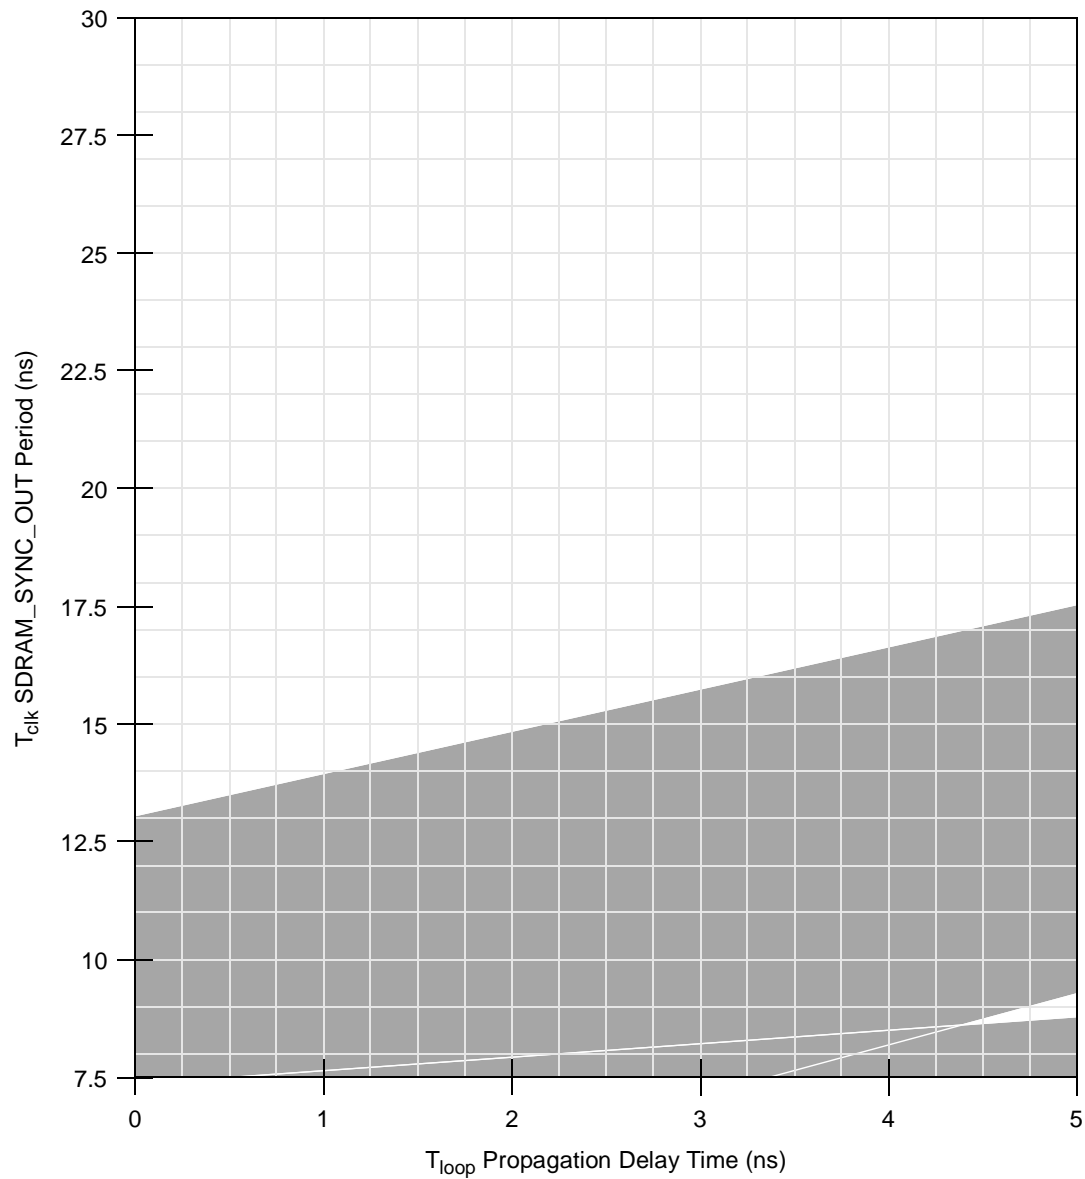
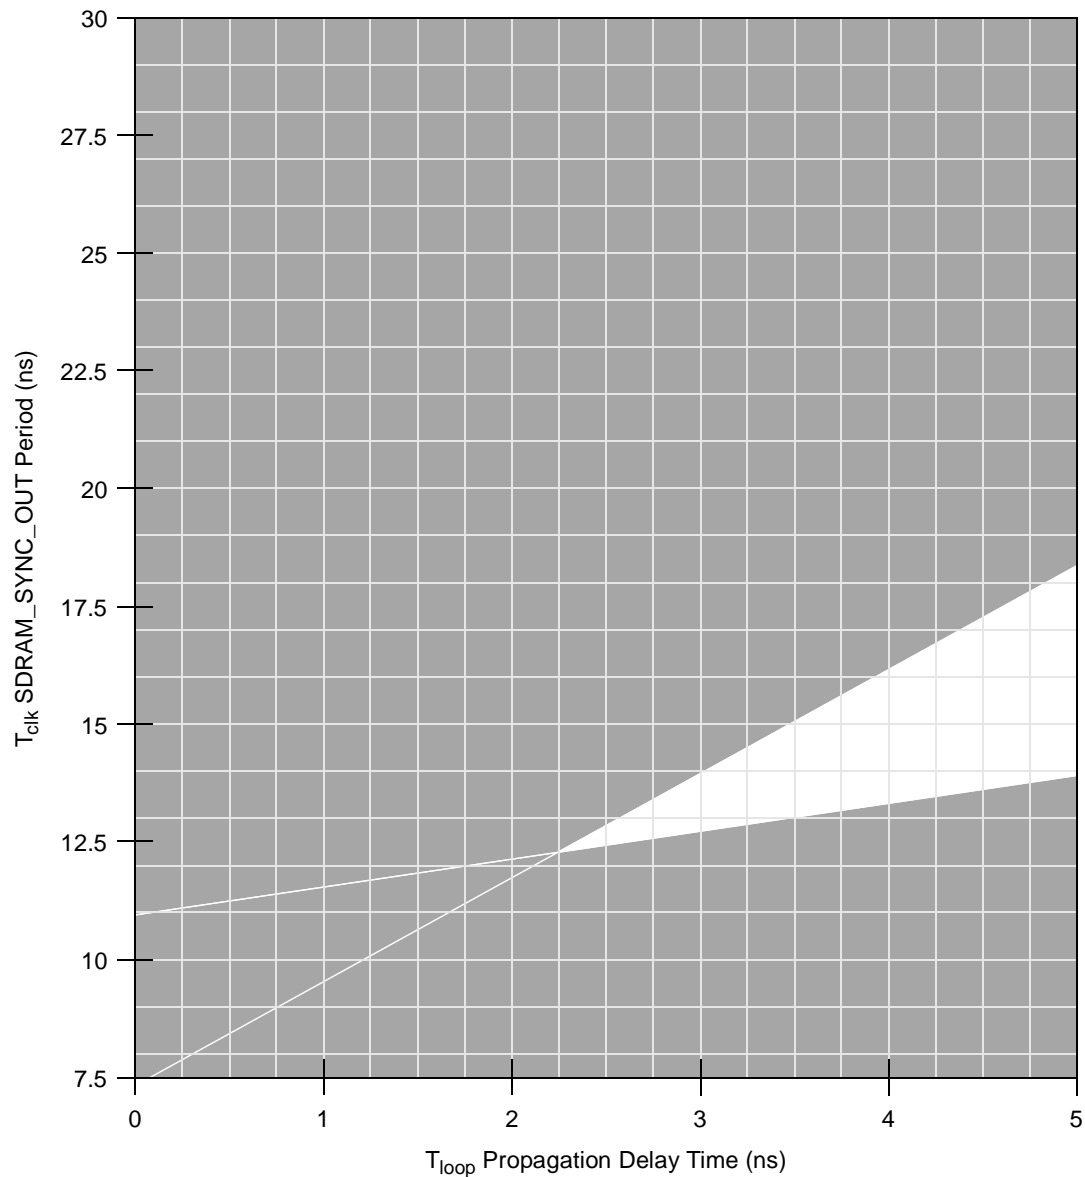

Figure 7. DLL Locking Range Loop Delay Versus Frequency of Operation for DLL_Extend=0 and Normal Tap Delay
Figure 10. DLL Locking Range Loop Delay Versus Frequency of Operation for DLL_Extend=1 and Max Tap Delay
6. DLL_EXTEND is bit 7 of the PMC2 register <72>. N is a non-zero integer (see Figure 7 through Figure 10). T_{clk} is the period of one SDRAM_SYNC_OUT clock cycle in ns. T_{loop} is the propagation delay of the DLL synchronization feedback loop (PC board runner) from SDRAM_SYNC_OUT to SDRAM_SYNC_IN in ns; 6.25 inches of loop length (unloaded PC board runner) corresponds to approximately 1 ns of delay. For details about how Figure 7 through Figure 10 may be used refer to the Freescale application note AN2164, *MPC8245/MPC8241 Memory Clock Design Guidelines*, for details on MPC8245 memory clock design.
Figure 7 through Figure 10 show the DLL locking range loop delay vs. frequency of operation. These graphs define the areas of DLL locking for various modes. The gray areas show where the DLL locks.